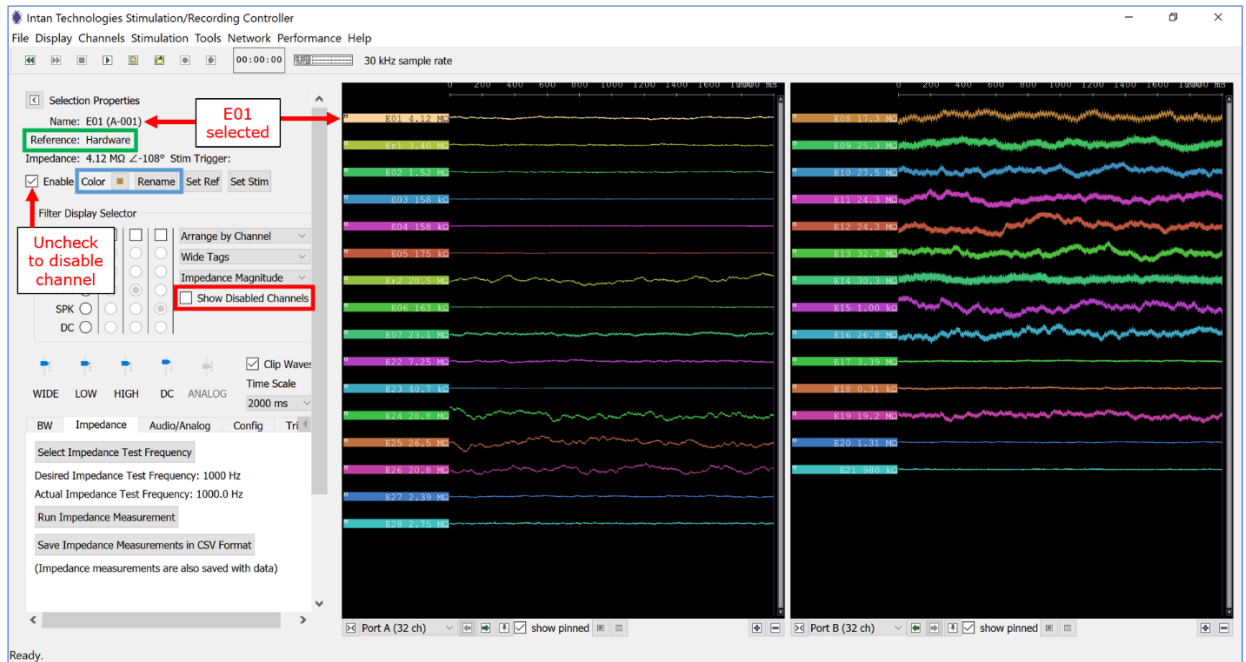

Fig. 42: GUI showing how to disable channels.
Note: Pressing the space bar toggles between enabling or disabling the channel. If you have disabled a channel and want to re-enable it, check the "Show Disabled Channels" box (red box in **Fig. 42**). Select the channel you want to re-enable by clicking on it and hit the space bar again.
b. Un-checking the "Enable" box in the "Selection Properties" section of the GUI (red arrow in **Fig. 42**).
This setting uses the REF input on the headstage as reference, which is connected to the "Ground" contacts on the BMSEED Interface Boards. This hardware reference is typically a Ag/AgCl or Pt wire electrode in the culture medium. The Hardware Reference is the default reference electrode if no other option is selected. The hardware reference is often connected to a local ground near the recording sites to reduce pick-up of common-mode signals, such as AC line noise and movement artifacts. This is the **default method** we recommend using (green box in **Fig. 42**).